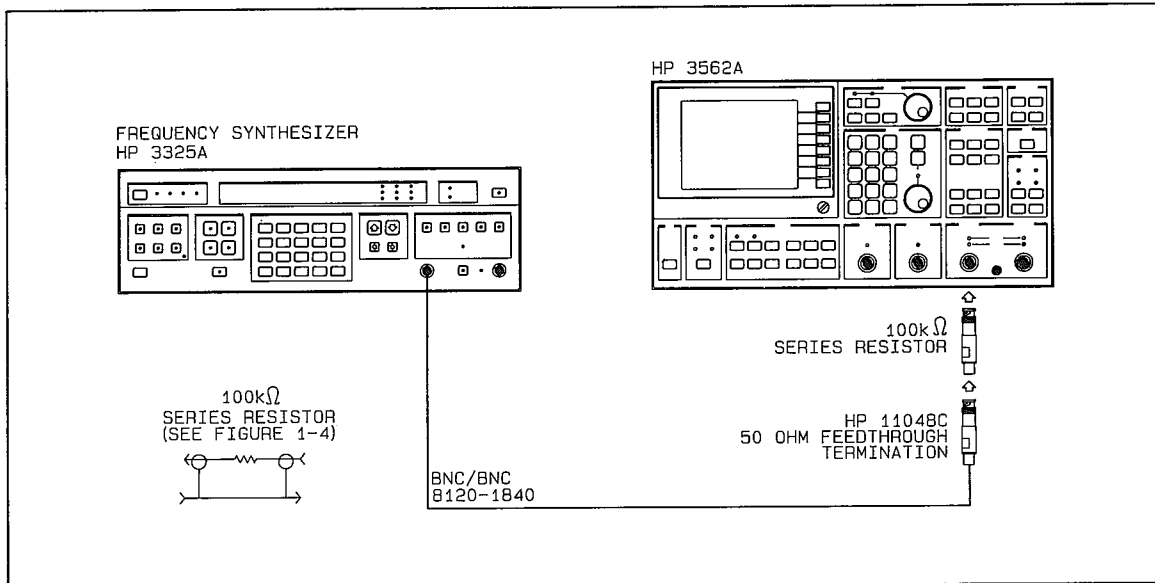

Figure 2-20 Input Capacitance Test Setup
F. Connect the test instruments as shown in figure 2-20.